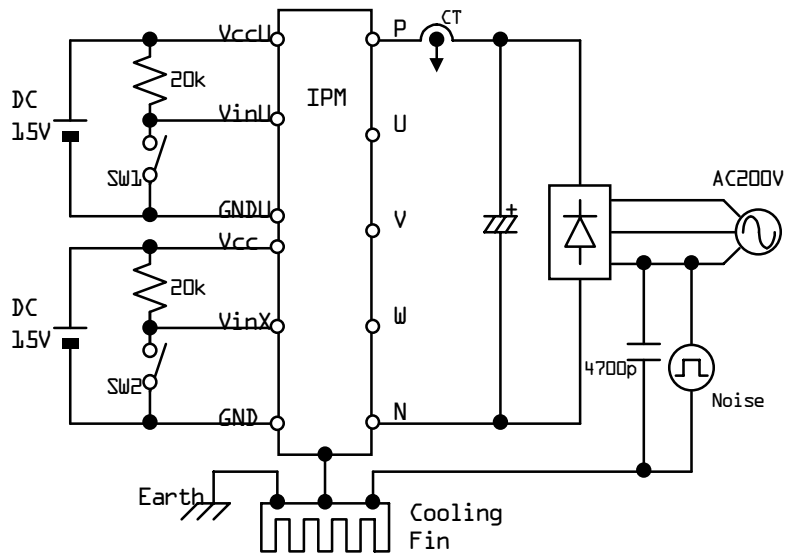

Figure 5. Noise Test Circuit
7. Noise Immunity (Vdc=300V, Vcc=15V, Test Circuit Fig.5.)